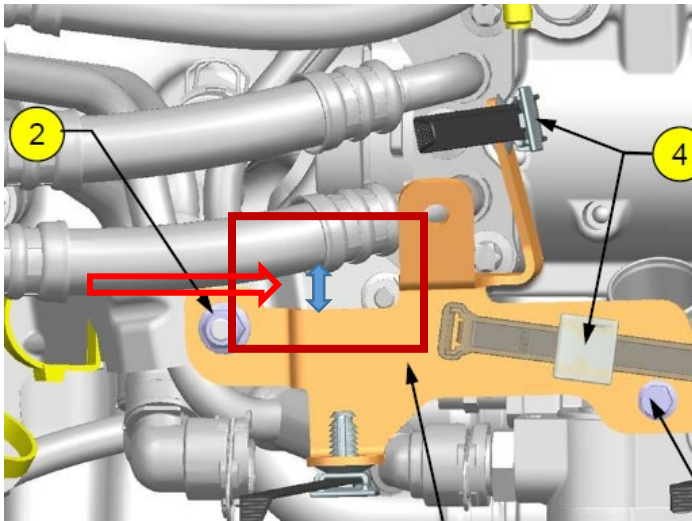
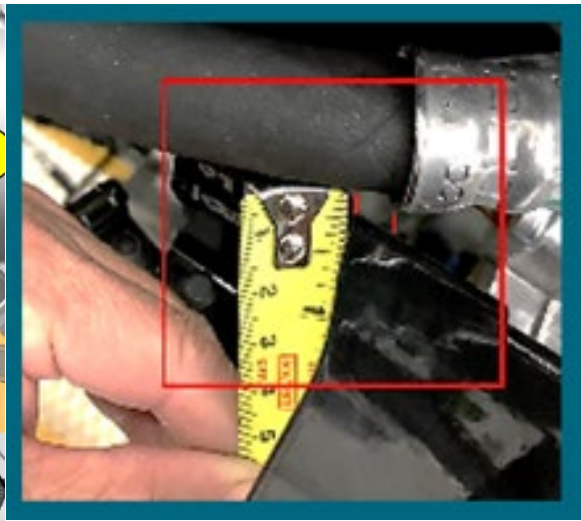

Fig. 6, Where to Measure Clearance Between Low Pressure Fuel Line and Engine Mounting Bracket
Fig. 7, Measuring Clearance between Low Pressure Fuel Line and Mounting Bracket
- Use the two cable tie mounts (part number 23-14137-000), shown in **Fig. 6** item 4, to attach the engine harness and fuel line to the new engine bracket.
- Verify the clearance between the low pressure fuel line and new engine bracket, as shown in **Fig. 6**, is .28 inch (7 mm) or greater as shown in **Fig. 7**.